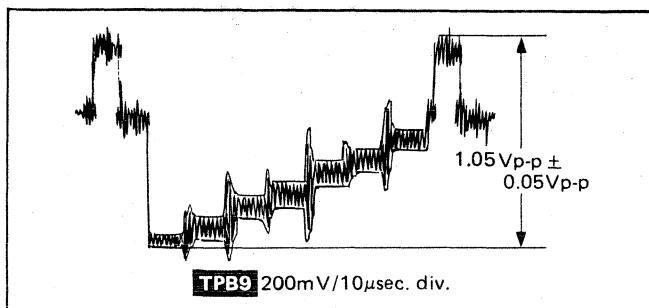

Fig. 5
4. Adjust R324 (Y-Level) so that the **TPB9** becomes  $1.05Vp-p \pm 0.05Vp-p$  as shown in Fig. 5.